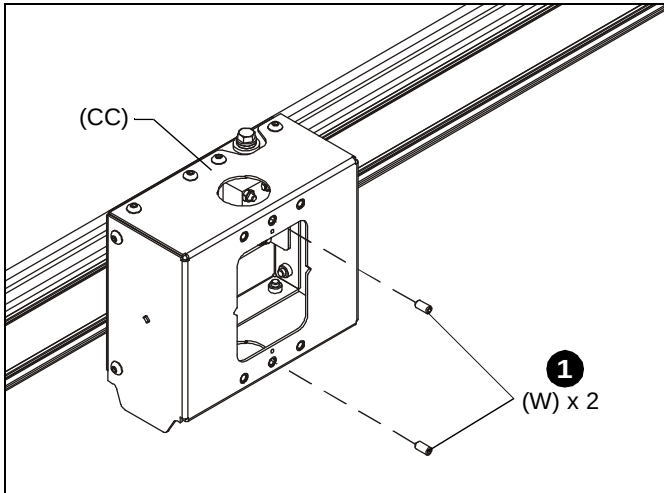

Figure 4
1. Insert two 5/16 x 3/4" set screws (W) into back of ceiling mount (CC). (See Figure 4)